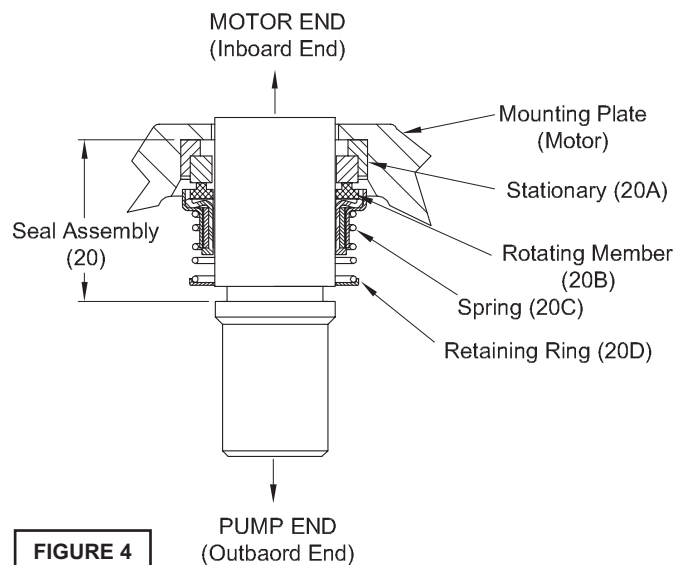
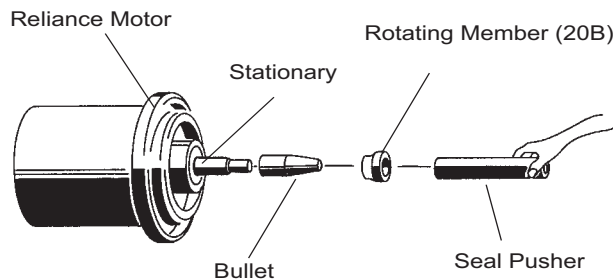

FIGURE 4
FIGURE 6
To expose outer shaft seal (20) for examination, remove Impeller and Volute per Section F-1.1. Set motor assembly (17) in the up position to prevent loss of oil. Remove snap ring from motor shaft, then retaining ring (20D), spring (20C) and rotating member (20B) from shaft, See Fig. 4. Examine all seal parts and especially contact faces.
Make sure the stationary member is in straight and that the rubber ring is not out of its groove. Lightly oil (**DO NOT use grease**) shaft and inner surface of bellows on rotating member (20B) see Fig. 6. With lapped surface of rotating member (20B) facing inward toward stationary member (20A), slide rotating member (20B) onto shaft using a seal pusher, until lapped faces of (20A) and (20B) are together. (see Fig. 4).